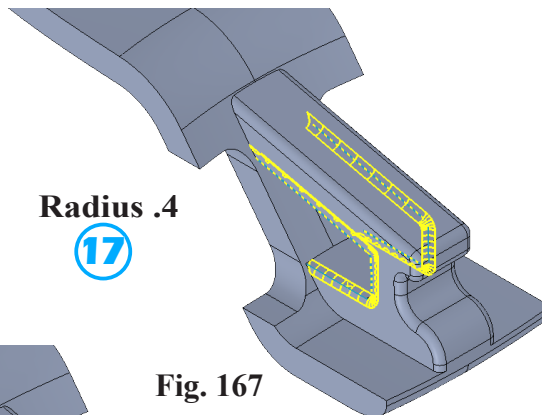

Fig. 167
- ⑰ Radius  .4
click side edges inside (2), Fig. 167